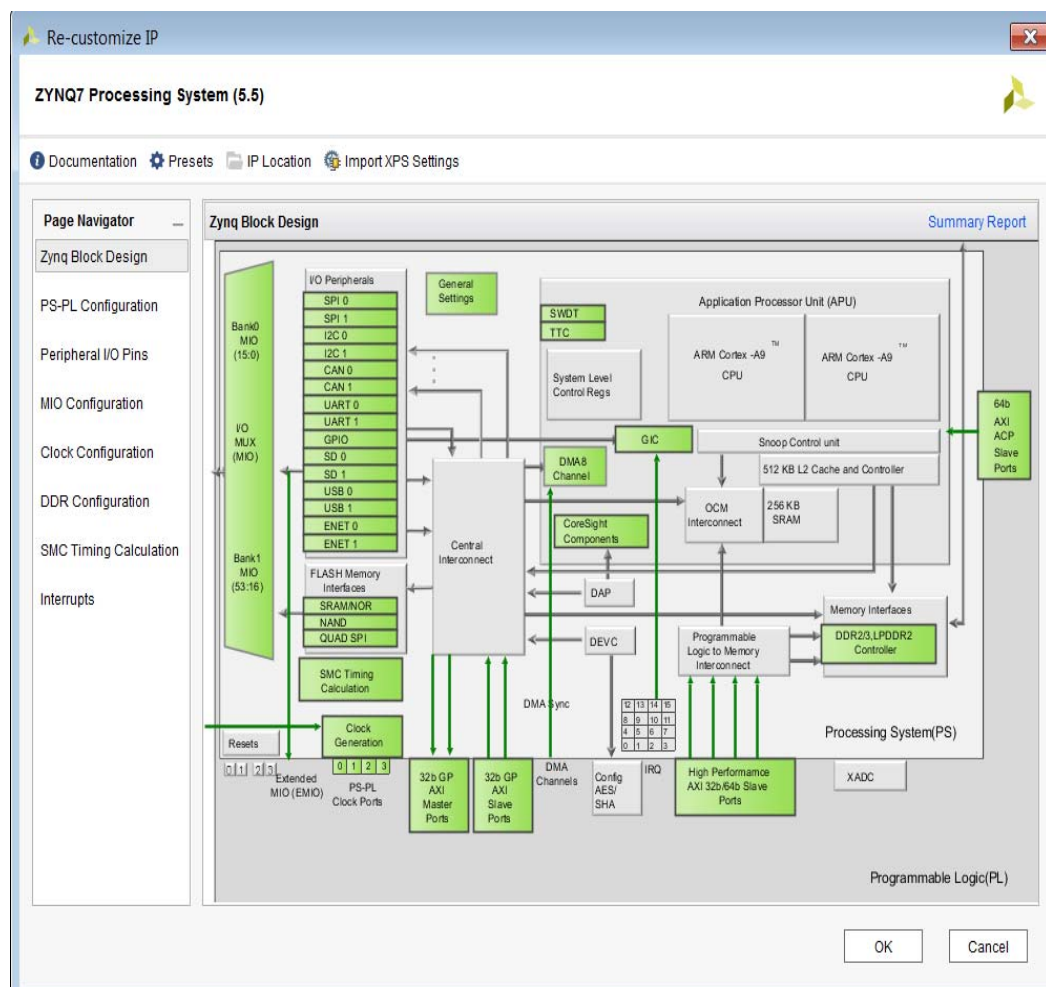

Figure 10-12: Configure the Zynq SoC
- a. Click the **Presets** icon and select **ZC702** (Figure 10-12).